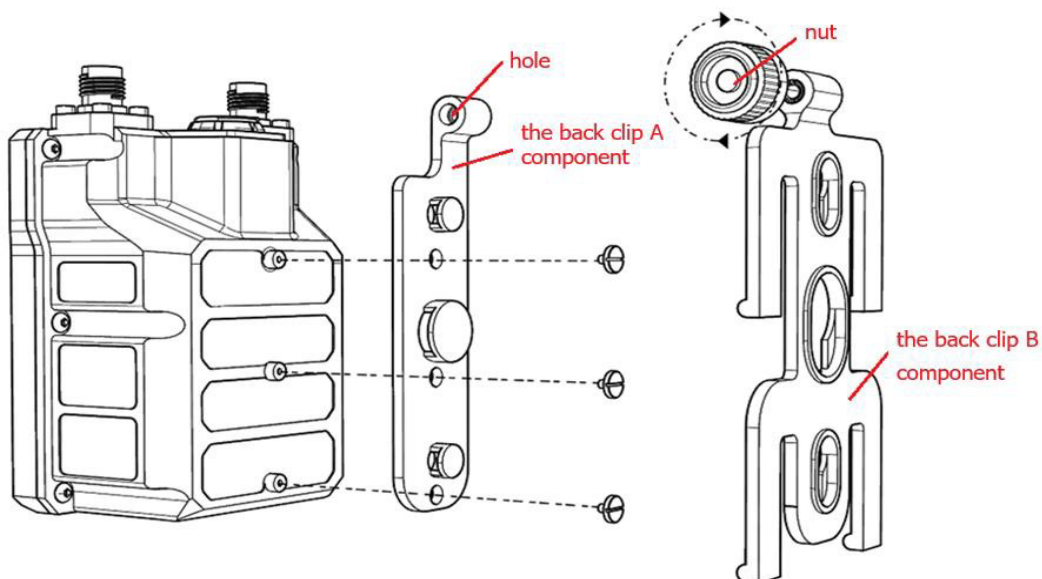

Figure 10 Communication Station Back Clamp Installation
M.O.L.L.E. Installation of the back clip: Fix the back clip A component to the back of the communication platform using three screws, and then turn the upper part of the back clip B into the upper hole of the A component clockwise through the nut, as shown in Figure 10. When disassembling, reverse operation is required.